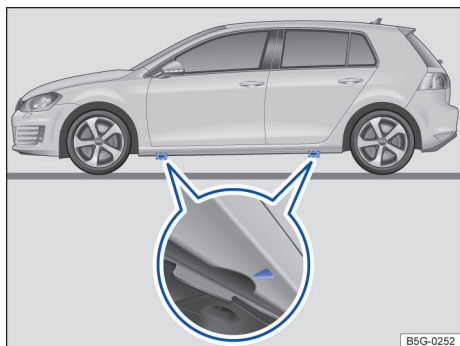

Fig. 189 Lift points for the jack.
The jack must be positioned at one of the 4 lift points located behind the markings on the vehicle body (2 on each side as shown in → fig. 189). You must use the lift point closest to the wheel being changed → ⚠.
3. *Automatic or DSG transmission:* Shift the transmission to Park (P) → page 149, *Automatic or DSG® transmission selector lever*.
9. Find the jack lift point → fig. 189 on the vehicle frame that is closest to the wheel to be changed.